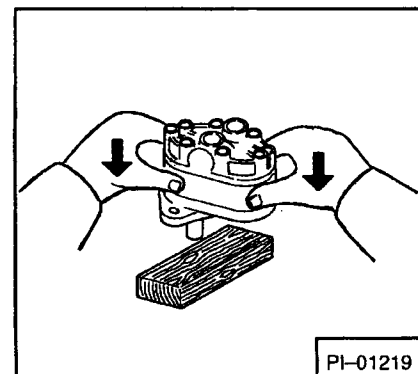

Fig. 4-41 Separating Pump Parts
3. Hold pump in a vise shaft down. Remove bolt which holds the pump plates together (Fig. 4-41).